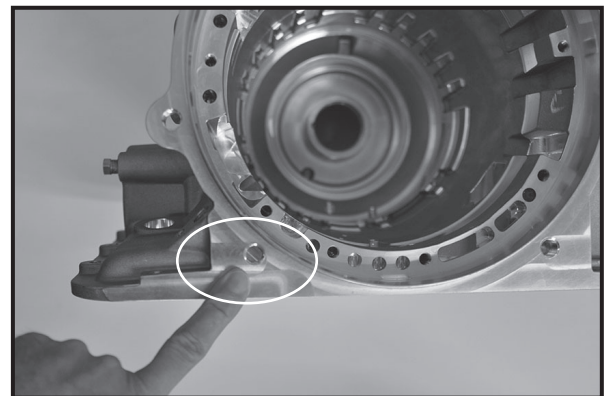

Figure 1- This hole requires thread sealer on the bell to case bolt (passenger side, bottom).
- The bottom left bell bolt must be sealed with RTV as it enters the inside of the transmission on #350011 and #350013. See Figure 1.